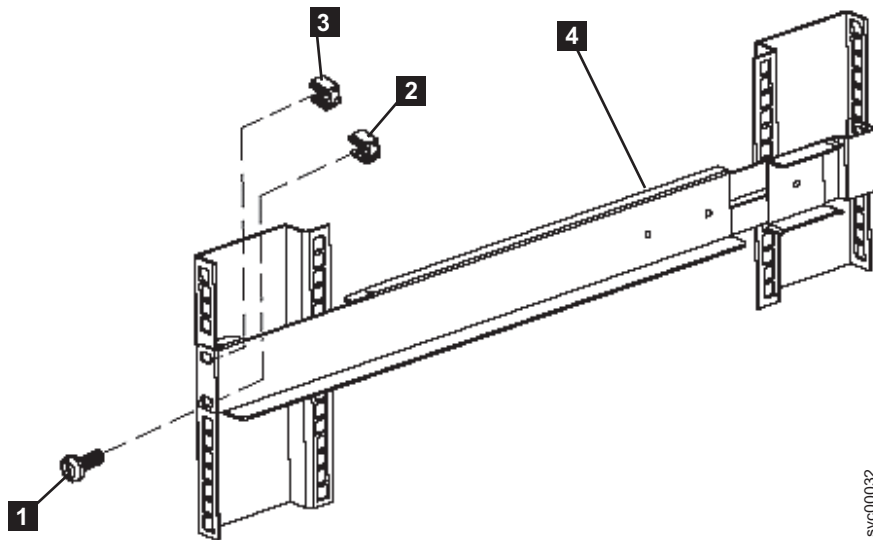

Figure 28. Securing the front rail on the 2145 UPS-1U
7. Attach only the bottom hole of the rail to the front of the rack with one M6 × 10 screw and one clip nut (see **1** in Figure 28).